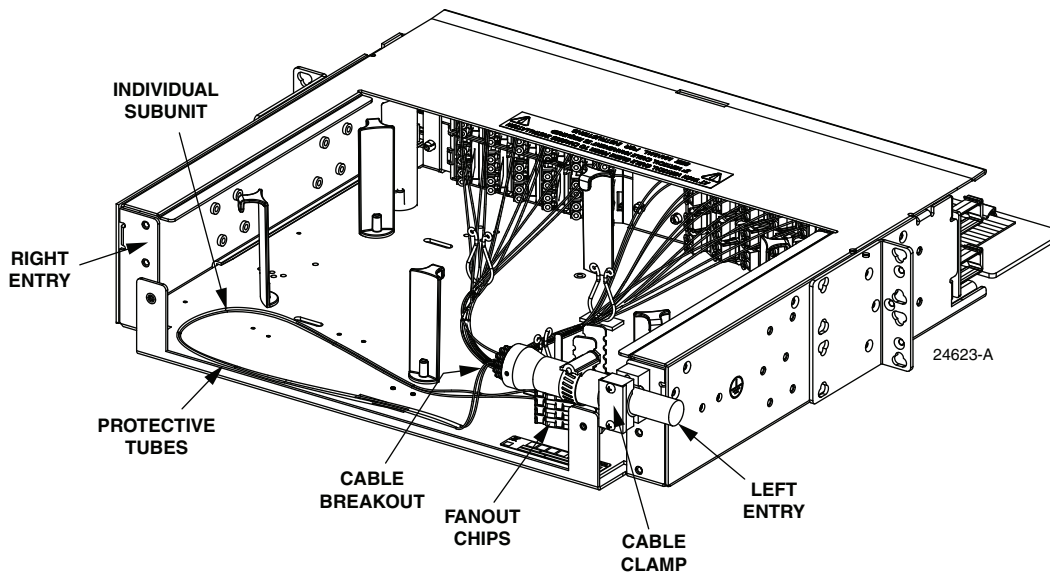

Figure 14. Typical FPX Configured with Termination Only (Rear View)
► **Note:** Cables may enter the panel from either the left or right and may be clamped to either the left or right side. For cable mounting locations see Figure 14.